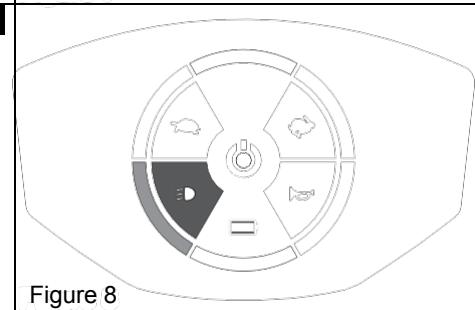

Figure 8
- Press button [ ⚡ ] once to switch on the head-light and tail-light. The [ ⚡ ] will be lighted on the panel. Light will be on on the panel. (Figure 8)
- Switch off by pressing the button again. The [ ⚡ ] light will be off on the panel. (Figure 8)